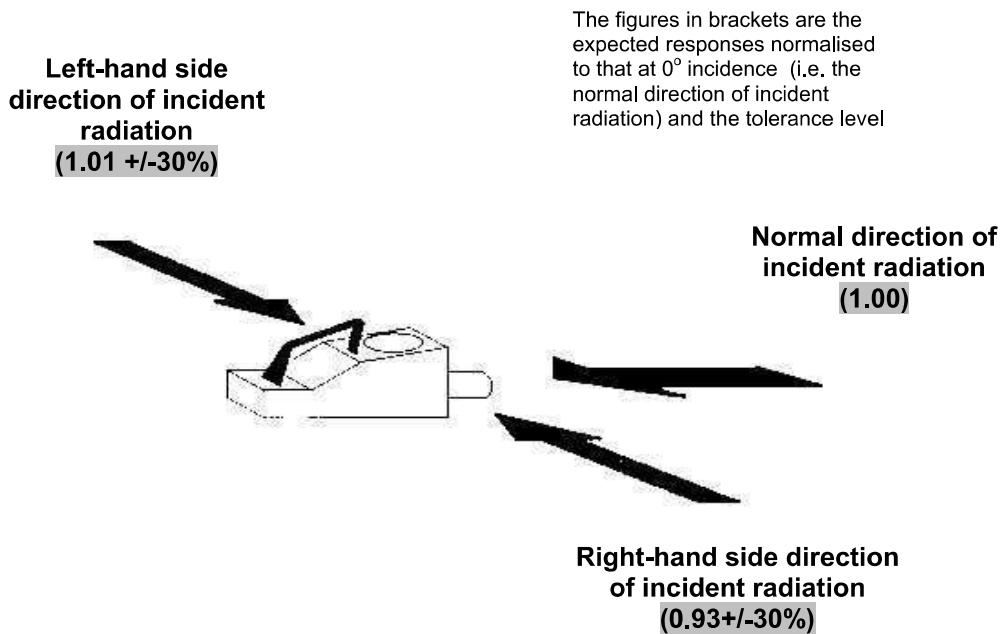

Figure 1: Expected Directional Dependency
- (i) Acceptance / Pass criteria – The responses shall reflect the responses detailed in Figure 1.